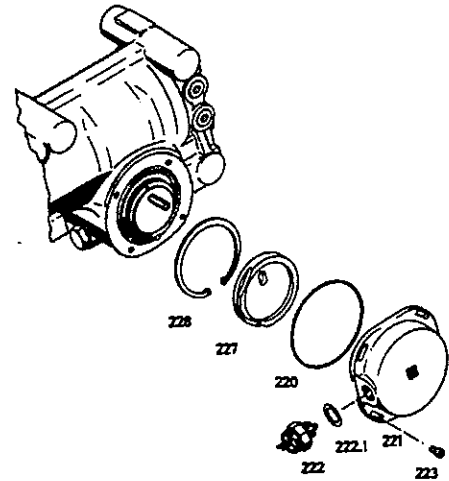

Fig.7
4.2. For versions with switch (222)
Mark position of cover (221) in relation to housing (1). Unscrew cap screws (223) and remove cover (221) with cam disc (227) and retaining ring (228) (*Fig.7*).